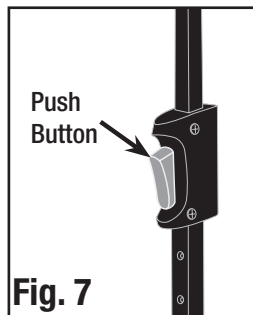

Fig. 7
- Adjust desired height until push button locks into place, making sure all four posts are level. (Fig. 7 & 8)